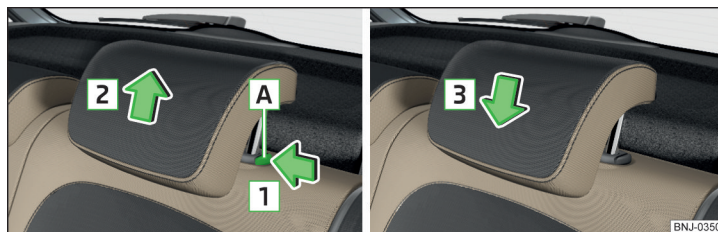

Fig. 75 Removing/installing the headrest
- Press locking button **A** in the direction of arrow **1** and pull out the head restraint in the direction of arrow **2** » Fig. 75.